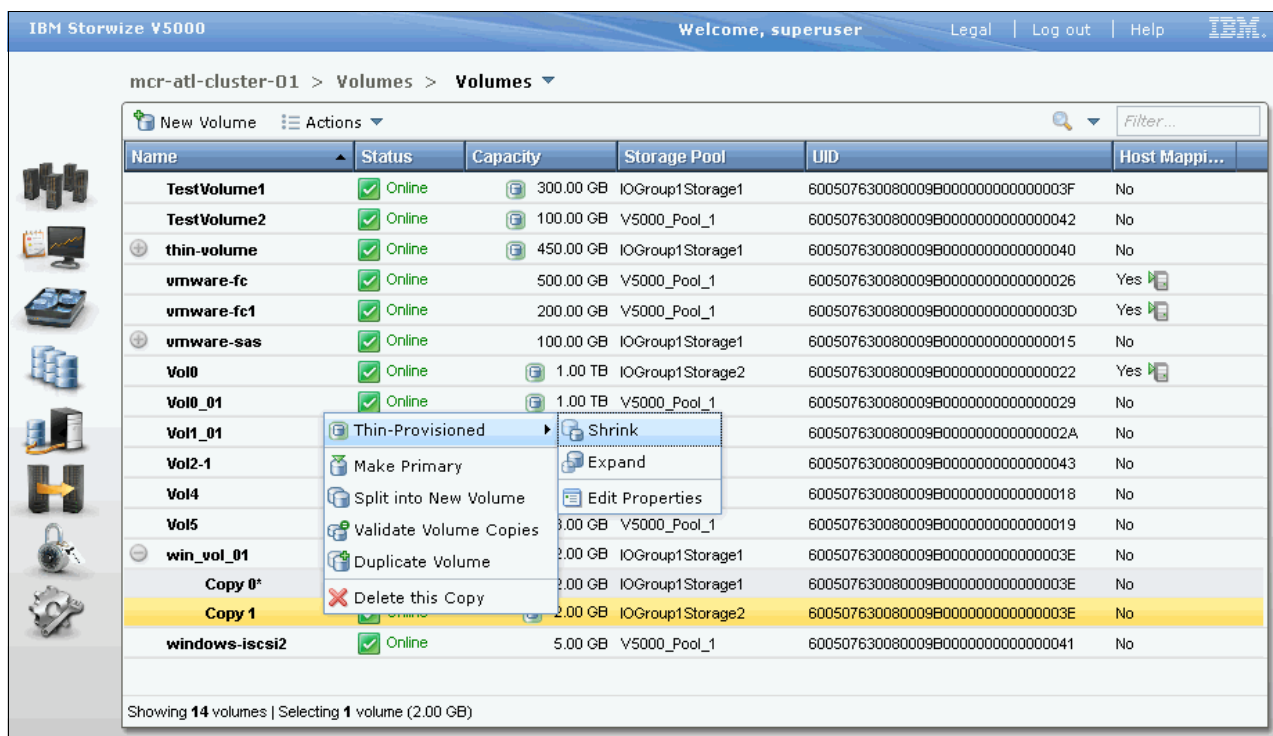
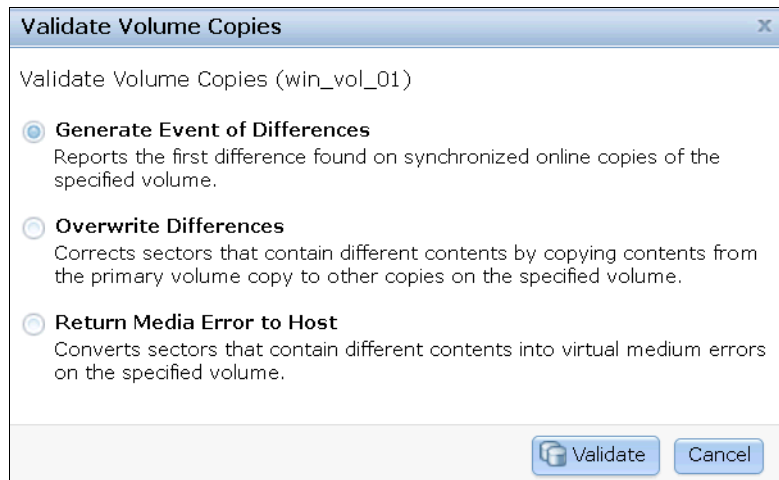

Figure 8-75 Volume copy actions
Figure 8-81 Validate Volume Copies window
If you expand the volume and highlight a copy, the following volume copy actions are available, as shown in Figure 8-75:
If you look at the volume copies that are shown in Figure 8-75, you see that one of the copies has a star displayed next to its name, as shown in Figure 8-76.
In our example, volume win_vol_01 has two copies: Copy 0 as primary and Copy 1 as secondary. To split a copy, click **Split into New Volume** (as shown in Figure 8-75 on page 398) on any copy and the remaining secondary copy automatically becomes the primary for the source volume.
1. Select **Validate Volume Copies**, as shown in Figure 8-75 on page 398. The Validate Volume Copies window opens, as shown in Figure 8-81.
Click **Delete** (as shown in Figure 8-75 on page 398) to delete a volume copy. The copy is deleted, but the volume remains online by using the remaining copy. Confirm the deletion process by clicking **Yes**. Figure 8-84 shows the copy deletion warning window.